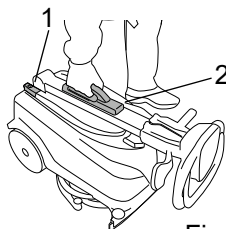

Fig.6
- Turn off the machine off at the main switch (fig. 6, ref. 1).
- Lift the machine by the grip on the shaft of the handle (fig. 6, ref. 2).